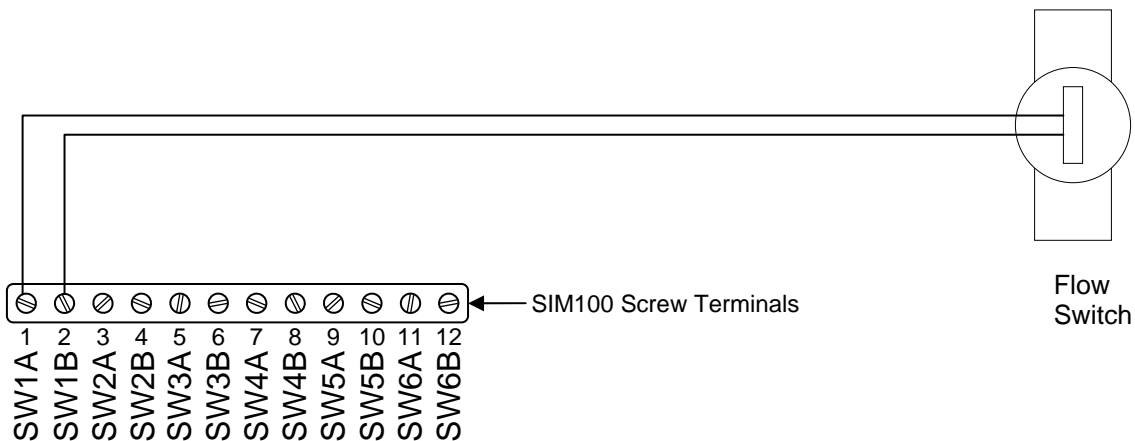

Figure 1 - Wiring Diagram
Please follow these instructions to connect the 10231 to the NMEA 2000 network via a Maretron SIM100 Switch Indicator Module. The wiring diagram appears in Figure 1. The diagram shows a connection to channel #1, but connections to other channels are similar. Please refer to the original manufacturer's instructions packaged with the product for additional details including setting of the switch activation flow rate.
1. Install the two wires from the 10231 to a free switch channel on the SIM100. The two wires are interchangeable. The example in Figure 1 shows the flow switch connected to switch channel 1, terminals SW1A and SW1B.